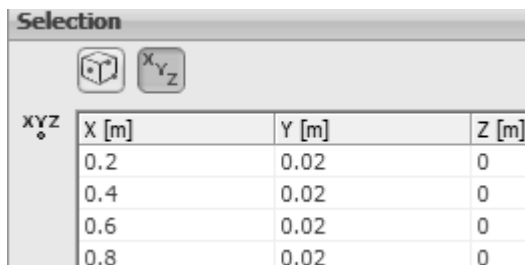
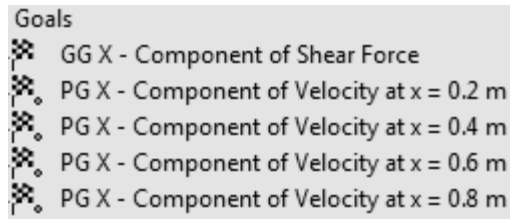
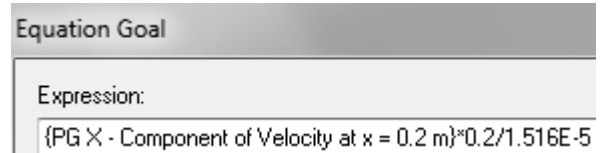

Figure 2.21e) Coordinates for point goals
Figure 2.21f) Renaming the point goals
Figure 2.21g) Entering an equation goal
21. Right click on **Goals** in the **Flow Simulation analysis tree** and select **Insert Global Goals...**. Select **X – Component of Shear Force** as a global goal. Exit the **Global Goals** window. Right click on **Goals** in the **Flow Simulation analysis tree** and select **Insert Point Goals...**. Click on the  **Point Coordinates** button. Enter **0.2 m** for X coordinate and **0.02 m** for Y coordinate and click on the **Add Point** button . Add three more points with the coordinates shown in figure 2.21e). Check the **Value** box for **X - Component of Velocity**. Exit the **Point Goals** window. Rename the goals as shown in figure 2.21f). Right click on **Goals** in the **Flow Simulation analysis tree** and select **Insert Equation Goal...**. Click on the **X-Component of Velocity at x = 0.2 m** goal in the **Flow Simulation analysis tree**, multiply by $x = 0.2$ m and divide by the kinematic viscosity of air at room temperature ($\nu = 1.516E-5$ m²/s) to get an expression for the Reynolds number in the **Equation Goal** window, see figure 2.21g). Select **No units** from the dimensionality drop down menu. Click on the **OK** button to exit the **Equation Goal** window. Rename the equation goal to **Reynolds number at x = 0.2 m**. Insert three more equation goals corresponding to the Reynolds numbers at the three other x locations. For a definition of the Reynolds number, see page 2-21.